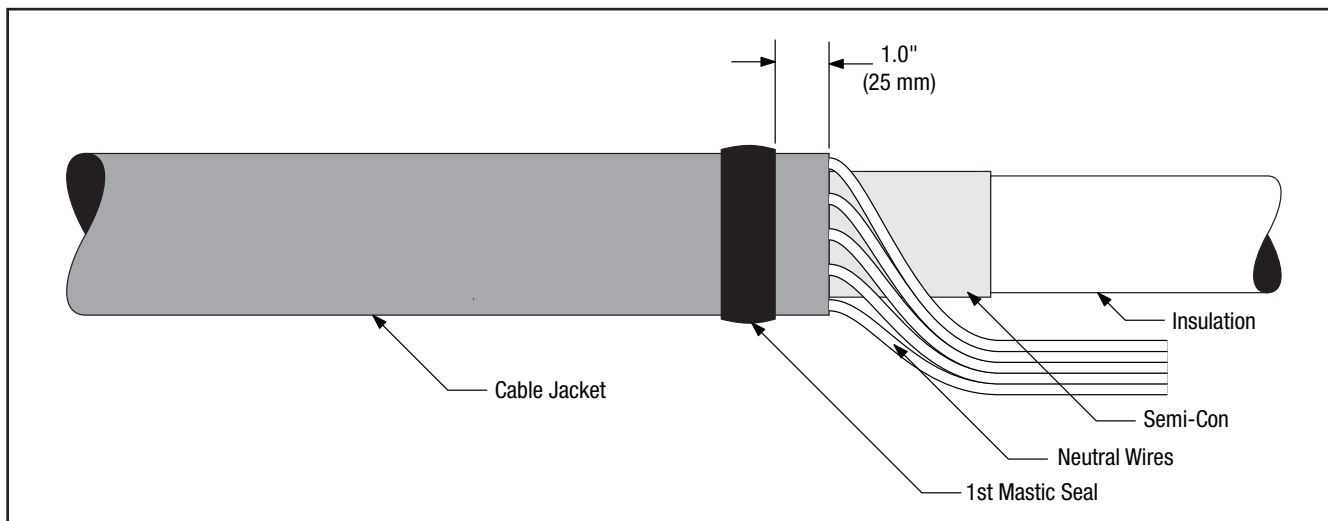

Figure 2
- 1.3 Select the roll of 1" (25 mm) wide 3M™ Scotch-Seal™ Mastic Tape 2229 from the kit. Cut a length of the mastic long enough to wrap around the cable jacket. Remove the release liner from the mastic and, using a light tension, apply a single wrap of mastic around the cable jacket 1" (25 mm) from the cut edge. (*Figure 2*)